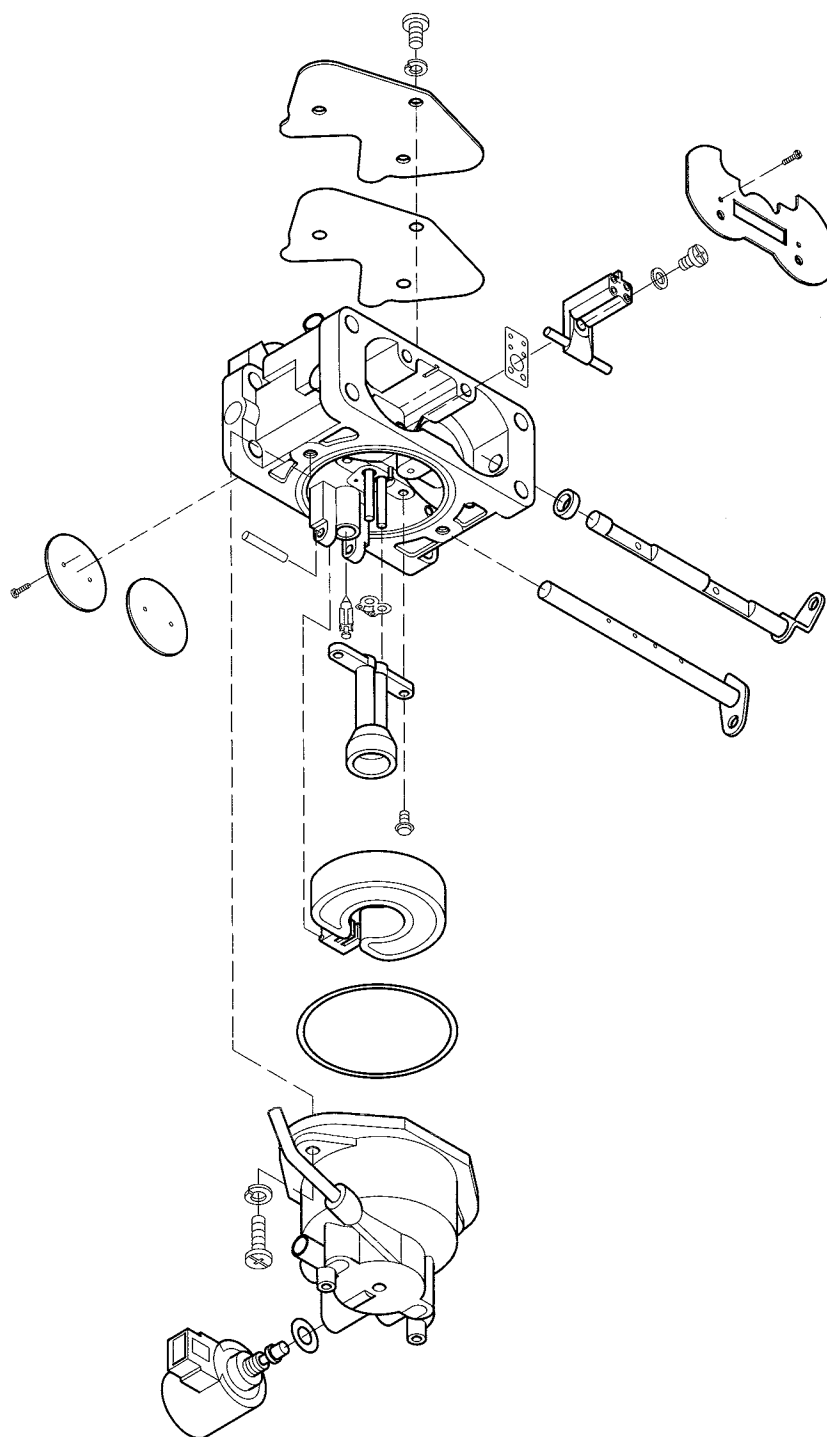

**Fig. 112**
20. Invert upper carburetor body as shown in **Fig. 112**.
- The float should be parallel (25) with carburetor bowl mounting surface.
- If not, use a small screw driver to bend tang (26) and lower (27) or raise (28) the float level as shown.